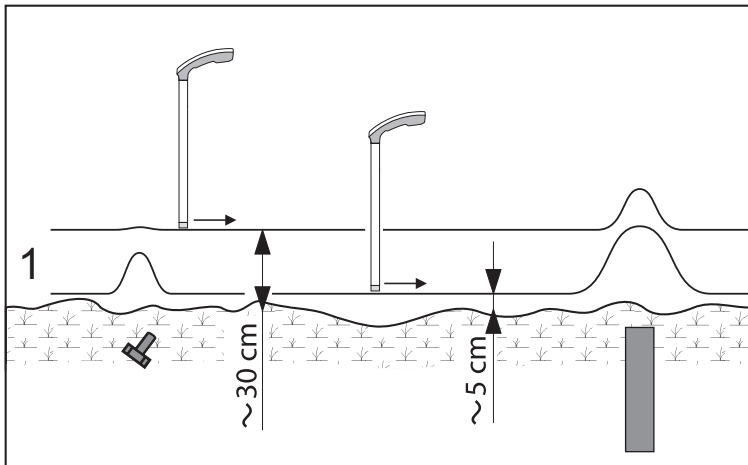

Fig. 9: Locating small and large objects with the same sensitivity. The distance of the magnetometer varied from the surface (cross section).
- If the distance between the magnetometer and surface2 increase without the sensitivity changing, it is more difficult and maybe even impossible to locate the object (Fig. 9).